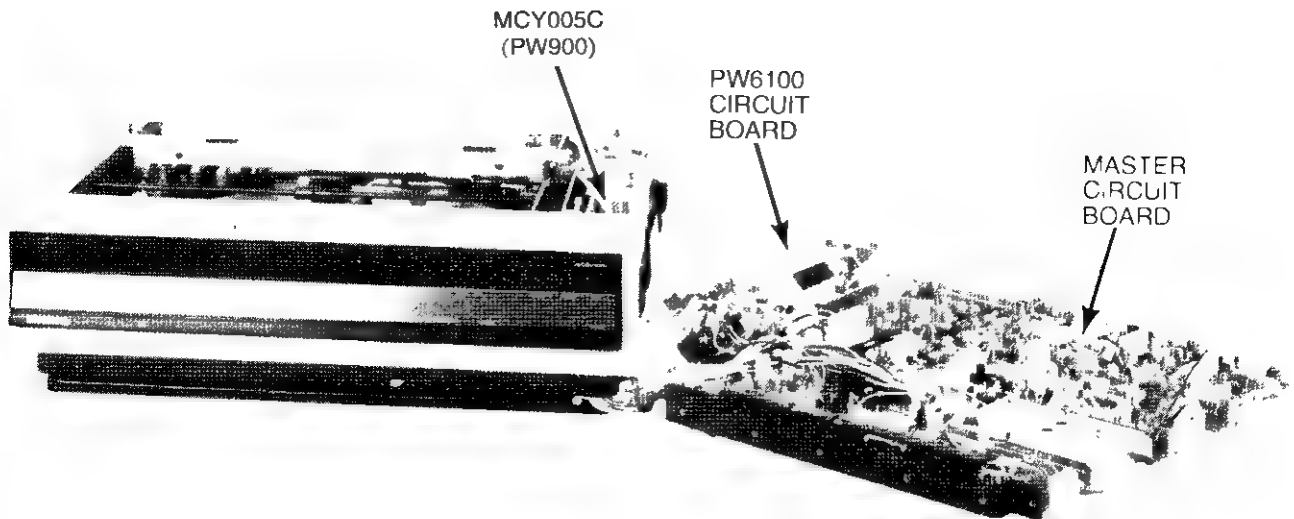

Fig. 12—Service Position
6. Place instrument and circuit board in upright position (Fig. 12), reinstall receiver spindle assembly and if front panel was removed reconnect front panel flex cable to flex cable connector Instrument is now in operational service position